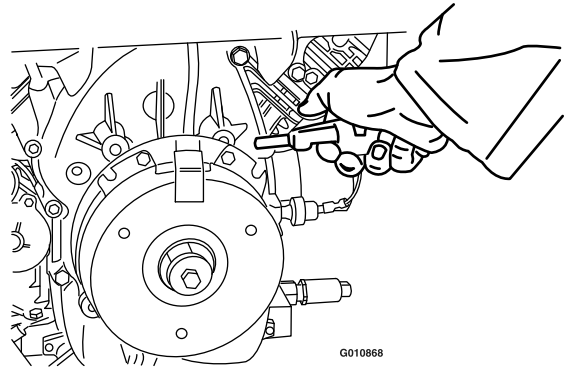

Figure 83
3. Using an air compressor, blow out any debris from under the brake pole and around the brake spacers (Figure 83).